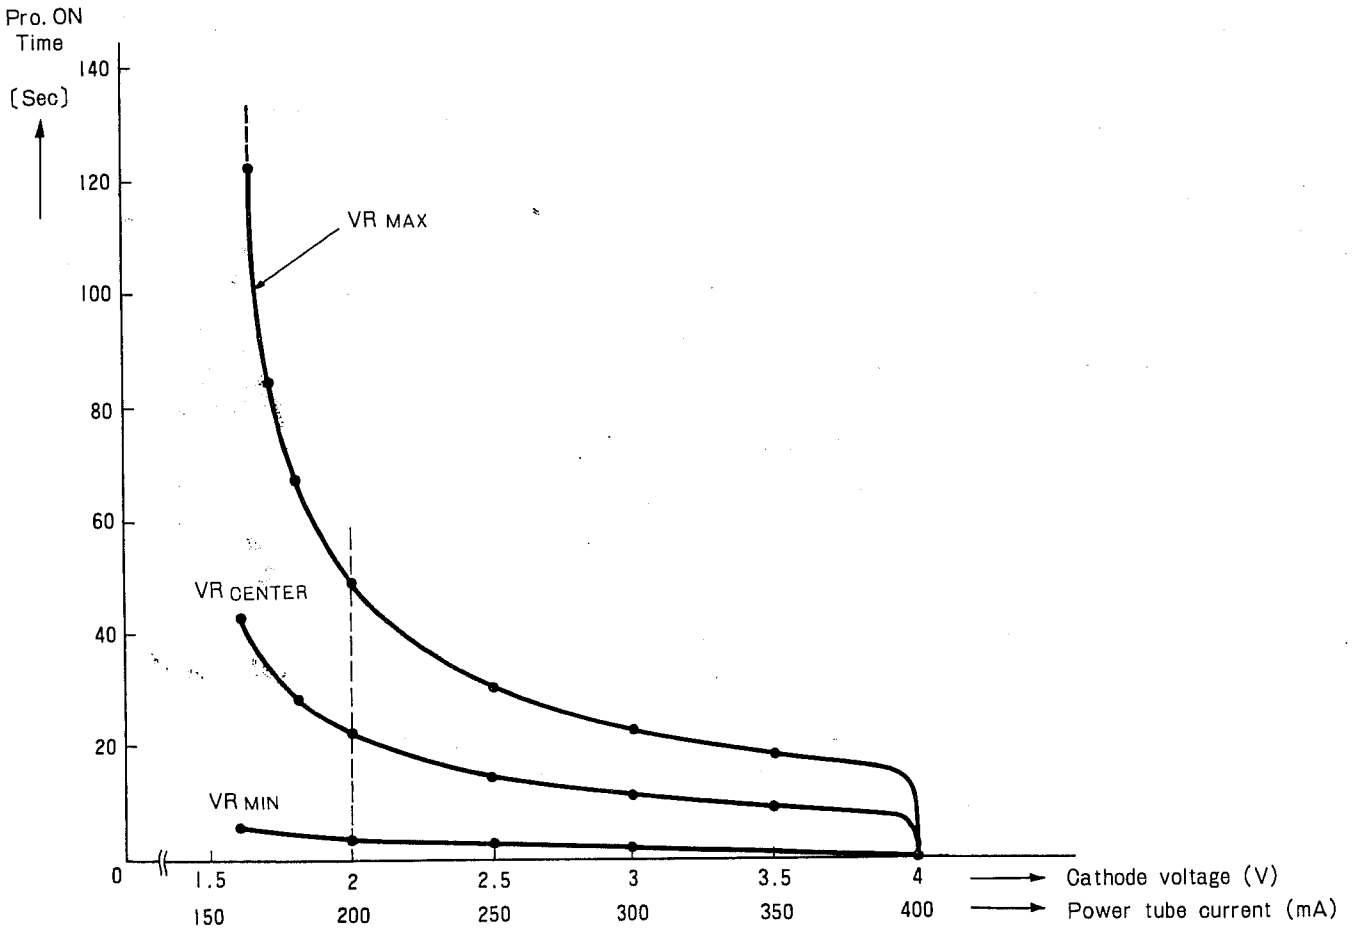

FIG. 3 PROTECTOR CHARACTERISTICS
0.7 V across the base-emitter junction — the same level as produced by the 240 mA fault current. Thus, the thyristor is turned on by this voltage to energize relay RL1, and protect the power tubes. To reset the protection circuit, shift the exciter stand-by switch to the receive mode or turn the LINEAR ON switch off. This procedure is necessary since relay RL2 has been self-held by "make" contacts since operation of relay RL1. The thyristor however has been automatically reset. Fig. 3 shows the operating characteristics of the protection circuit.
<p>(3) Overcurrent protection circuit does not operate.</p>	<p>(a) Protection circuit is turned off since PRO TIME knob on rear of set is set in the fully counterclockwise direction. Note: This knob should not be adjusted in normal operation. Power tubes may be damaged if transmission is continued with protection circuit off.</p> <p>(b) Confirm that the protection circuit is powered. (The voltage should be approximately DC 15 V at pin 28 of X53-1000-00.)</p> <p>(c) Protection will start only after an extended period at a plate current of around 150 mA. This, however, is not a trouble but is due to the operating characteristic of the protection circuit. See Fig. 3.</p>
<p>(4) Overcurrent protection circuit trips too quickly.</p>	<p>(a) Confirm that PRO TIME knob, on the rear, is set to proper operation time. (Refer to ALIGNMENT for the time adjustment.)</p> <p>(b) Rated exciter input to TL-911 is 100 W. If driven by more than 100 W, protection will trip more quickly than rated due to increase in <math>I_p</math>. See Fig. 3. Protection will trip quickly if transmission is continued at an <math>I_p</math> of around 300 mA. This, however, reduces the life of the power tubes, and drive should be reduced.</p> <p>(c) If linear amp tank circuit is improperly adjusted, plate dissipation will be greater under this condition. <math>I_p</math> will rapidly increase with the increase in tube temperature and protection will trip more quickly. This usage, in turn, imposes an extreme overload on the tubes, causing them to flash. The tank circuit, therefore, should be adjusted until tubes deliver maximum output for a given rate of plate current.</p>